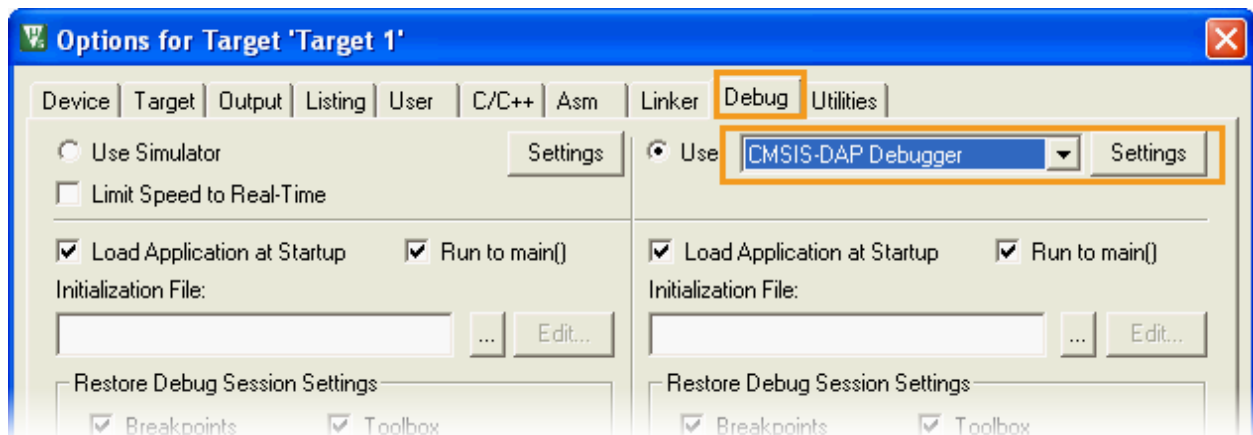

Figure 55. Configure the debug settings
- 6) Navigate to **Debug** tab in the **Options for Target** to select the **CMSIS-DAP Debugger**, as shown in Figure 55.